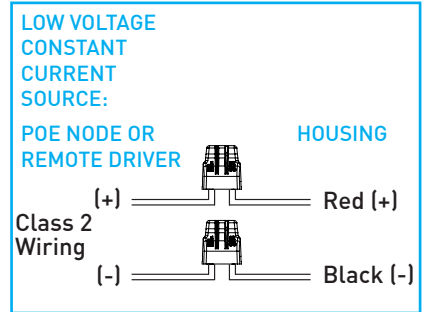

Fig.18
Feed structured building wires through knockout, secure to corresponding connector "Fig.18" and tighten strain relief.
**Quick connectors** provided for low voltage connection: Red (+) and Black (-) "Fig.18".